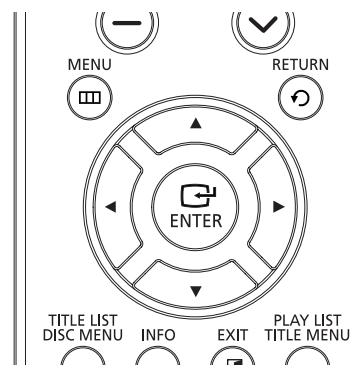

Fig. 4-7 Remote Control
- 4) Press the **ENTER** button on the remote control (Fig. 4-7).